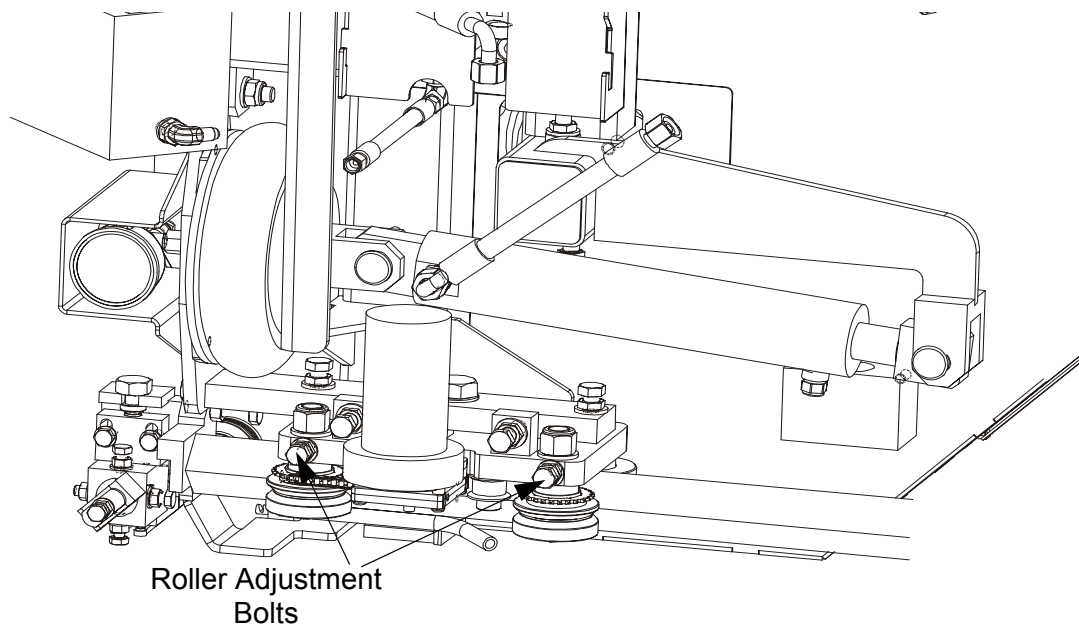

FIG. 7-3
**See Figure 7-3.** Loosen the jam nuts and turn the adjustment bolts in to tighten the blade guide arm rollers. Retighten the jam nuts.